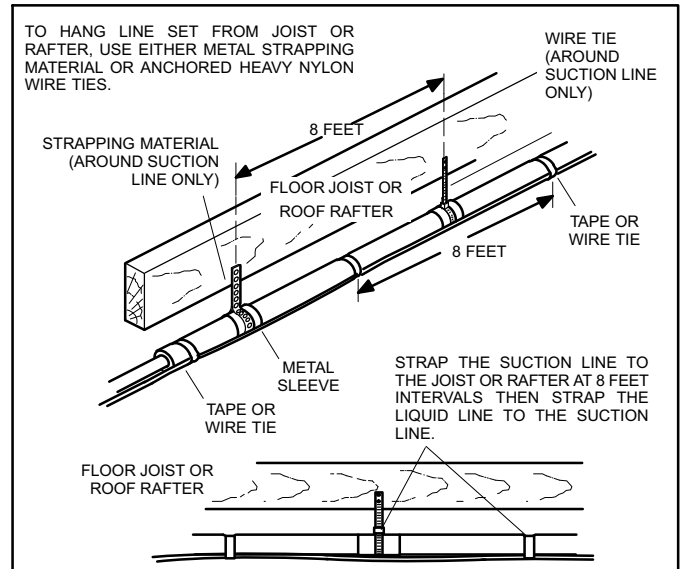

**Figure 14. Refrigerant Line Set: Installing Vertical Runs (New Construction Shown)**
- Installation of **line set on vertical runs** is illustrated in figure 14.